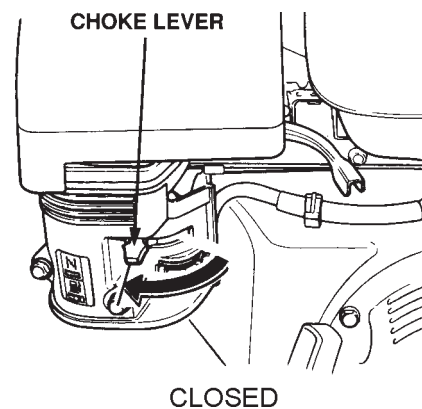

Figure 9. Engine Choke Lever (Closed)
4. Place the **choke lever** (Figure 9) in the "CLOSED" position if starting a *warm engine* or the *temperature is warm*.